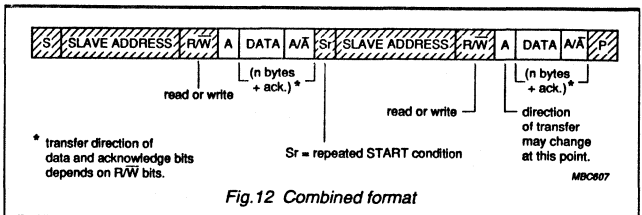

Fig.12 Combined format
- Combined format (Fig.12). During a change of direction within a transfer, the START condition and the slave address are both repeated, but with the R/W bit reversed.